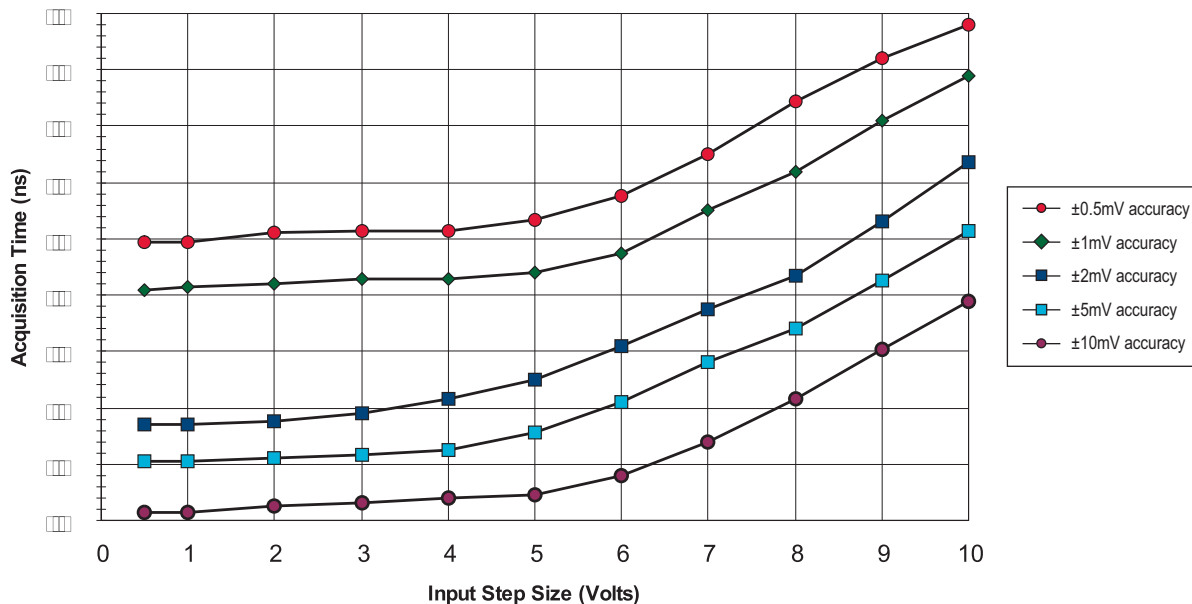

Figure 4. Acquisition Time versus Accuracy and Step Size
- ① Pins 3 and 4.
- ② See Figure 4 for relationship between input voltage, accuracy, and acquisition time.
- ③ Pins 6 and 22.
6. See Figure 4 for acquisition time versus accuracy and input voltage step amplitude.
As shown in the plot (Figure 4) of acquisition times vs. input signal step